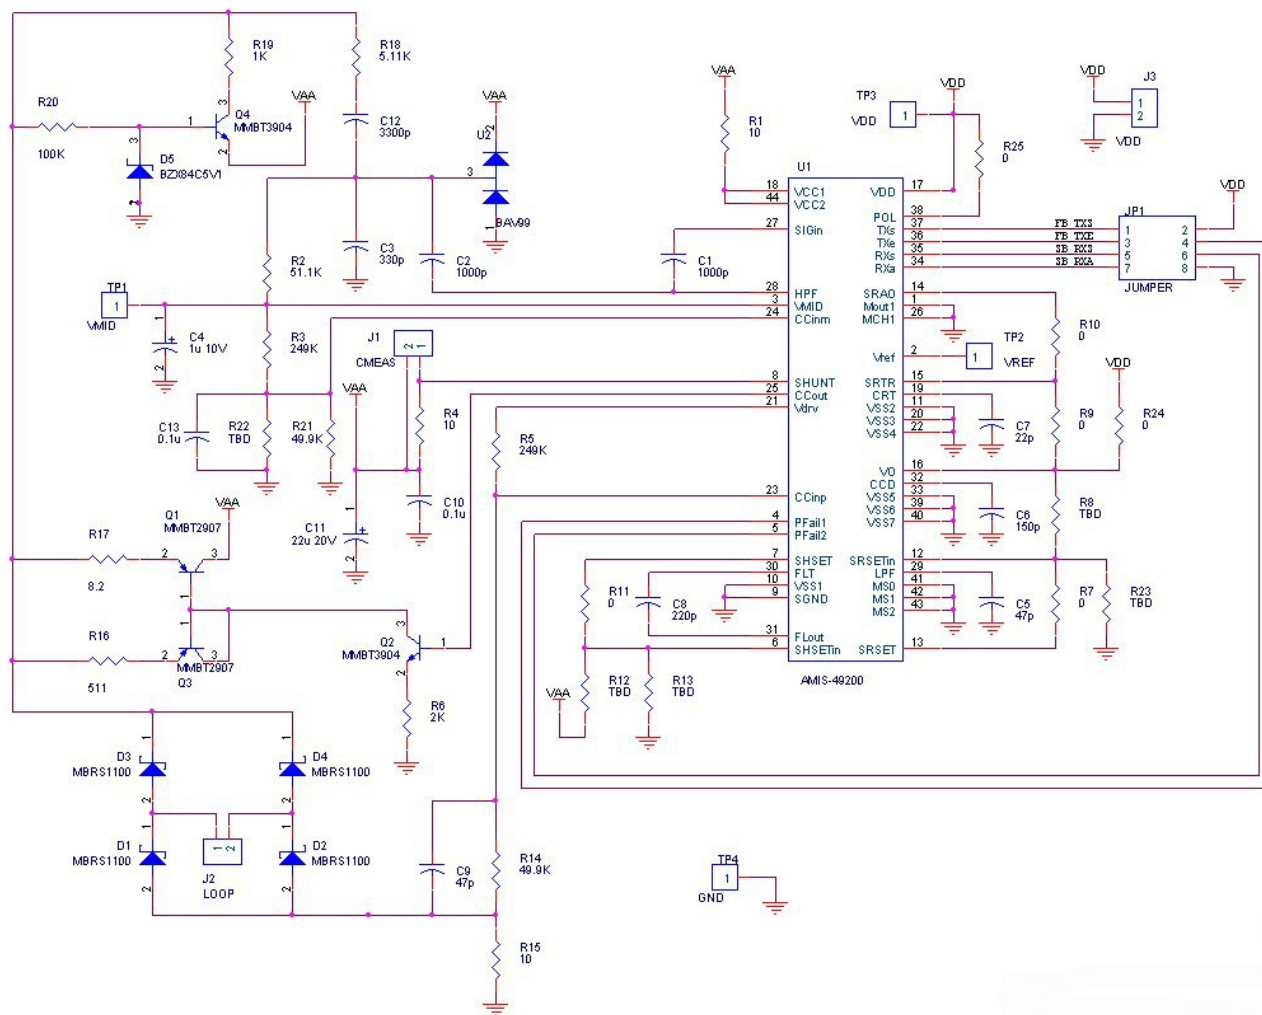

Figure 2. AMIS-492x0 Reference Design Schematic
as is, often this design can be slightly modified given unique application-related traits. Figure 12 in the AMIS-492x0 data sheet shows a general schematic independent of board layout. Figure 2 shows the AMIS-492x0 reference design that includes extra components to accommodate such application flexibility. This schematic together with PCB build files and a bill of material (BOM) constitute the AMIS-492x0 reference design package which can be found at the link listed in this document's reference section. The design in Figure 2 also passes the Foundation Fieldbus test (FF830, Rev. 1.5).
- Certain sub-circuits (e.g. voltage dividers) have been added to adjust analog (shunt regulator) supply voltage, digital (series regulator) supply voltage, and loop current settings (loop current regulator). Figure 2 shows these components as "TBD" to be adjusted by the customer as needed to modify the design to their application requirements. The "TBD" resistors not installed by default on the reference board are listed in Table 1.
- Reference board following the schematic in Figure 2, including the AMIS-49200 device.
The component values in Figure 2 in this document and Figure 12 in the AMIS-492x0 data sheet are differently labeled. For convenience, a cross-reference list is found in Table 2.